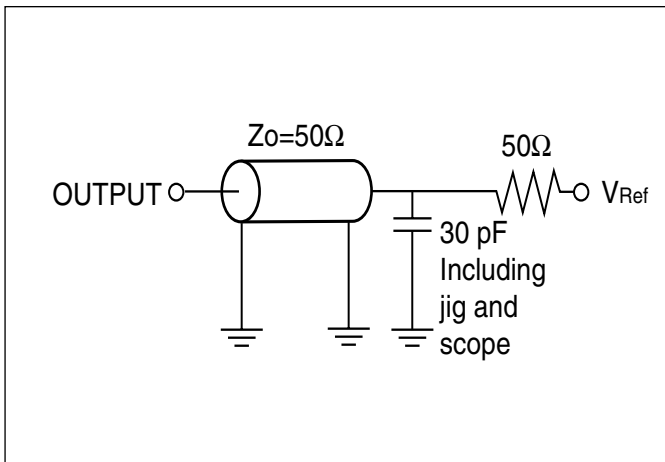

Figure 1a.
1. Test conditions assume signal transition times of 1.5 ns or less, timing reference levels of 1.25V, input pulse levels of 0V to VDD V and output loading specified in Figure 1a.
1. Test conditions for IS61WV3216BLL assume signal transition times of 1.5ns or less, timing reference levels of 1.25V, input pulse levels of 0V to VDD V and output loading specified in Figure 1a.